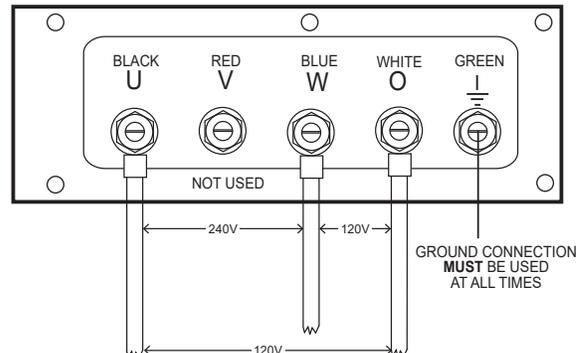

Figure 24. UVWO Terminal Lugs (Single-Phase 240/120-Volt Connection)
2. Connect the load wires to the **UVWO terminal lugs** as shown in Figure 24.